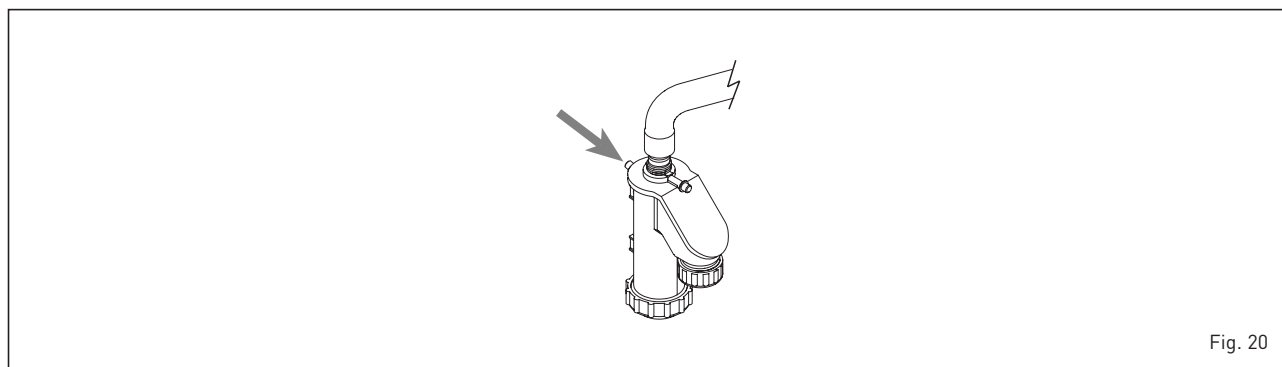

Fig. 20
4.5 MAINTENANCE (fig. 20)
During maintenance operations, it is important to verify that the drip-plate with drain trap contains water (this check is particularly important if the generator has not been used for extended periods of time). If necessary, the drip plate can be filled using the tap provided (fig. 20).